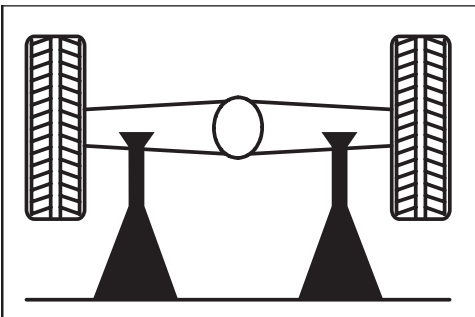

Fig. 4
3.4 Working Under the Vehicle - Fig 4